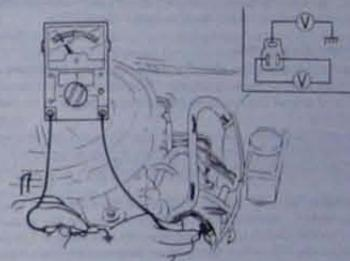

Fig. 4.26 Testing the PTC heater system - Aisan carburettor (Sec 16)
- To check that the system is operating correctly first ensure that the engine is cold. With the ignition switch turned to 'ON', connect a voltmeter to the terminals of the PTC heater block connector as shown in Fig. 4.26. A reading of 11 to 12 volts should be obtained in both cases and the throttle body temperature should start to rise. Start the engine, warm it up to normal operating temperature and repeat the above checks. In both cases a reading of 0 volts should be obtained.